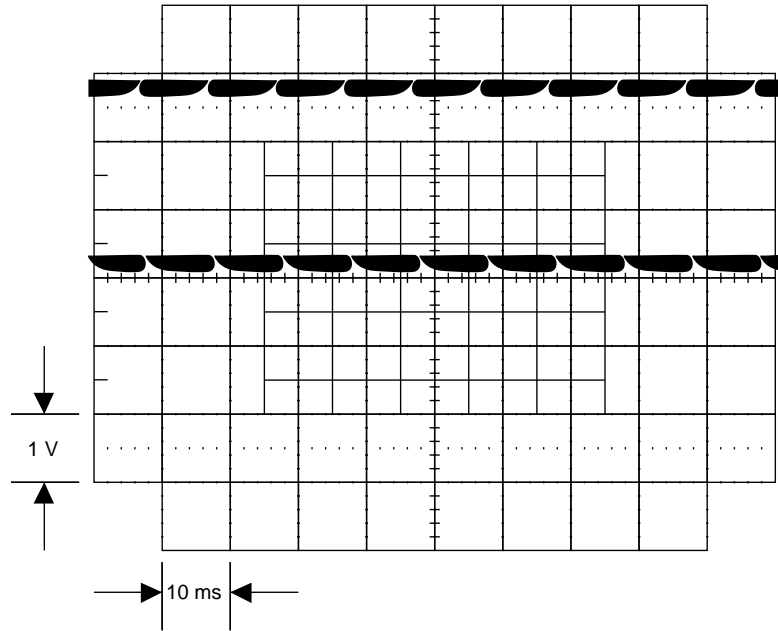

Figure 5-4. Waveform at Pins 14 and 15 of U1
8. Check the Synthesizer IC U1. Power down the 5700A, remove shorting header E6 from the J6 pins, and connect an external variable dc reference (2 to 13V) to TP2. Power up the 5700A and set it for 1V at 6 MHz, operate. Connect a frequency counter to TP15 and adjust the external dc reference until the counter reads less than 6 MHz (~5.8MHz). Connect an oscilloscope to pin 15 of U1 and verify it displays a signal similar to Figure 5-4. Next, adjust the external dc reference until the counter reads more than 6 MHz (~6.2 MHz). Connect an oscilloscope to pin 14 of U1 and verify it displays a signal similar to Figure 5-4. If a failure is detected, check U1 and associated components.